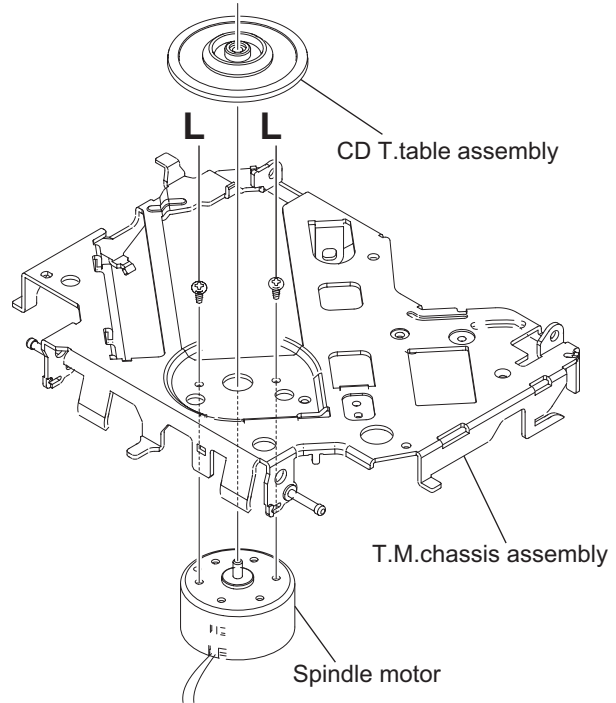

Fig.23
### 3.2.14 Removing the spindle motor (See Fig.23 and 24)
- From the top side of the T.M chassis assembly, remove the CD T.table assembly from the spindle motor. (See Fig.23.)
- Remove the two screws **L** attaching the spindle motor. (See Fig.23.)
- Take out the spindle motor from the bottom side of the T.M chassis assembly. (See Fig.23.)